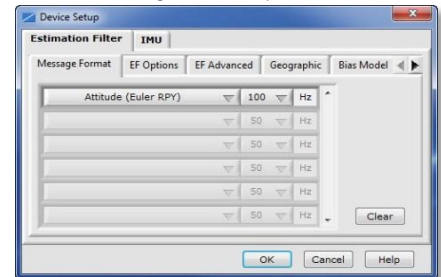

Figure 3: Device Setup window
- Click Device and the Device Setup window appears, as shown in Figure 3.